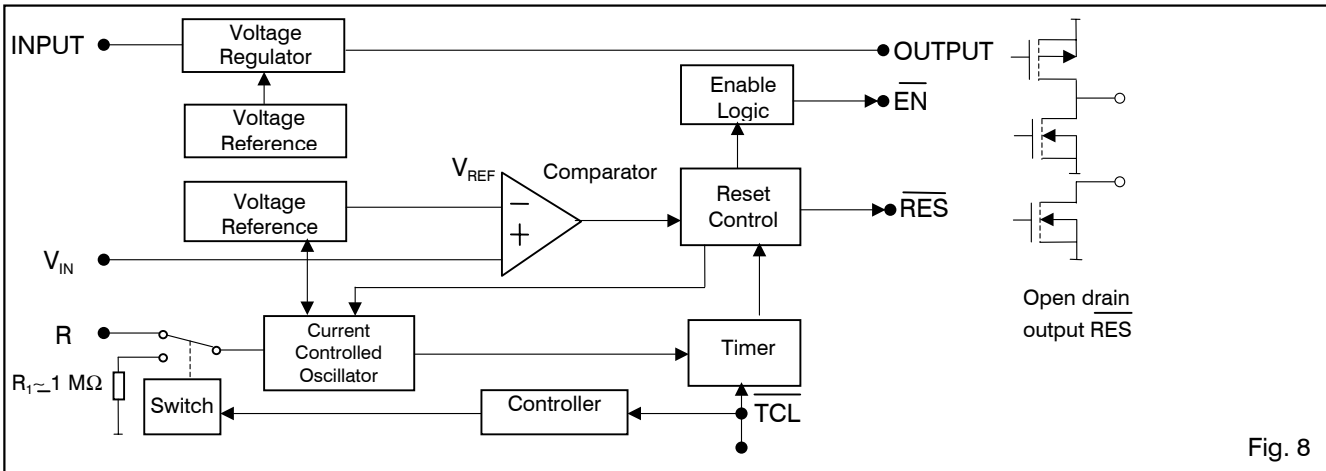

Fig. 8
- 2) Full operation guaranteed. To achieve the load regulation specified in Table 3 a 22  $\mu$ F capacitor or greater is required on the INPUT, see Fig. 8. The 22  $\mu$ F must have an effective resistance  $\leq 5 \Omega$  and a resonant frequency above 500 kHz.
- 6) The comparator and the voltage regulator have separate voltage references (see "Block Diagram" Fig. 8).